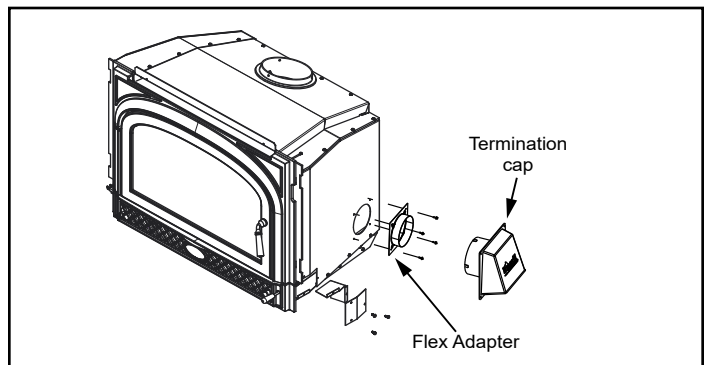

Figure 5.2
3. After sliding appliance into fireplace, feed flex into cut opening to obtain outside combustion air, Figure 5.2.